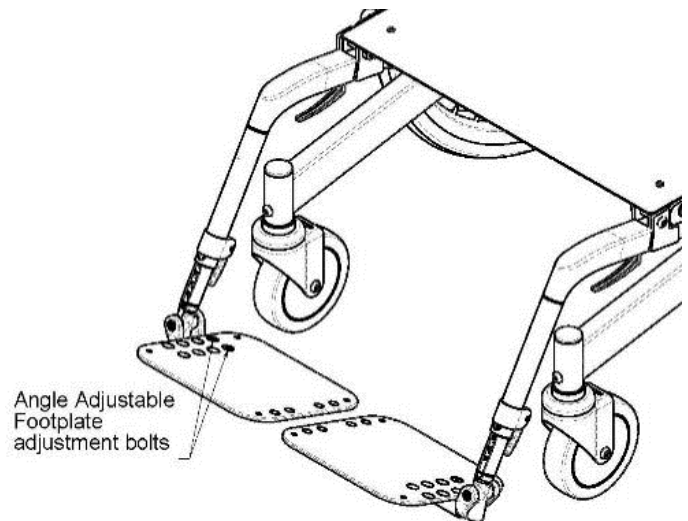

Fig. 6: Adjustable Angle Footplates.
1. Loosen the angle adjustable footplate adjustment bolts as shown in Figure 6.
1. Remove the angle adjustable footplate adjustment bolts as shown in Figure 6.